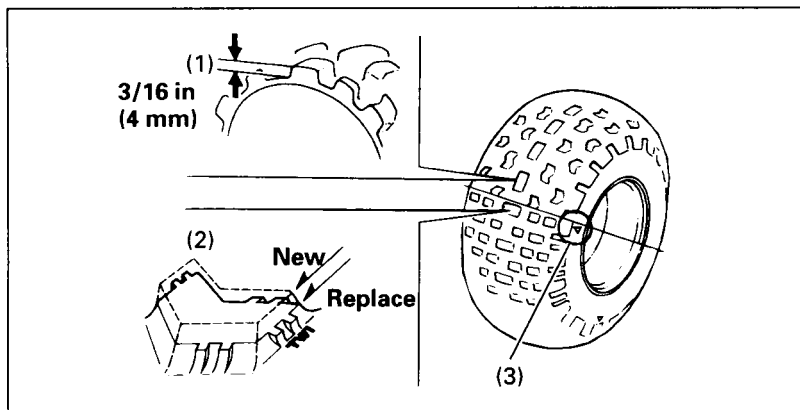

Fig. 4-35
To check the condition of a tire tread, measure the groove depth (1) (Fig. 4-35) in the center of the tire, or check the wear indicator (2).